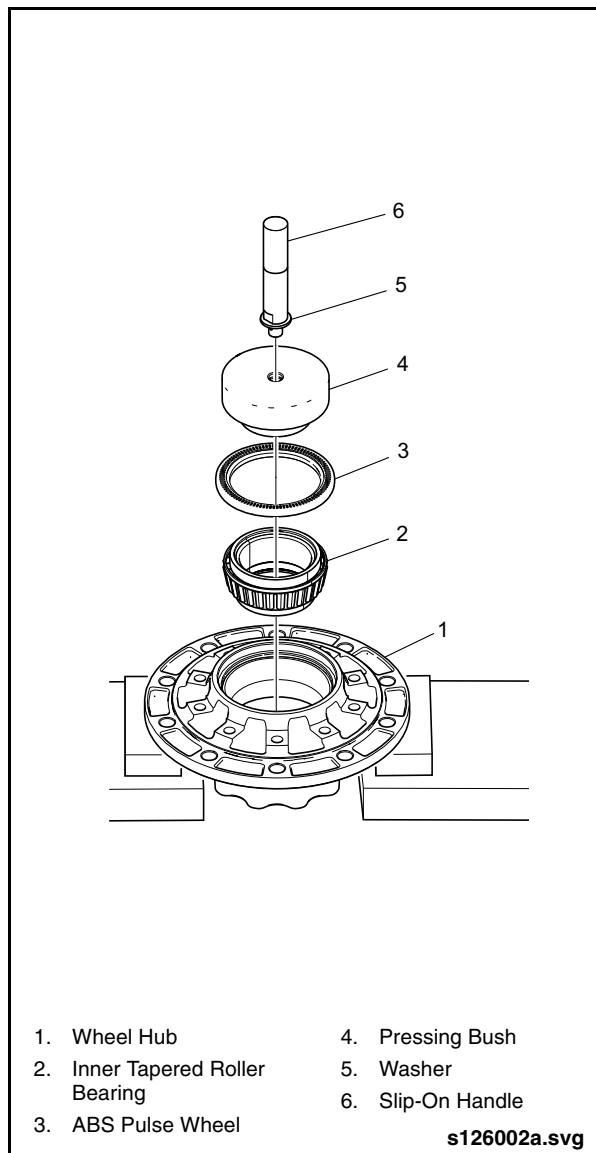

Fig. 2-26: Installing Inner Tapered Roller Bearing
1. Insert the tapered roller bearing into the wheel hub. See "Fig. 2-26: Installing Inner Tapered Roller Bearing" on page 26.